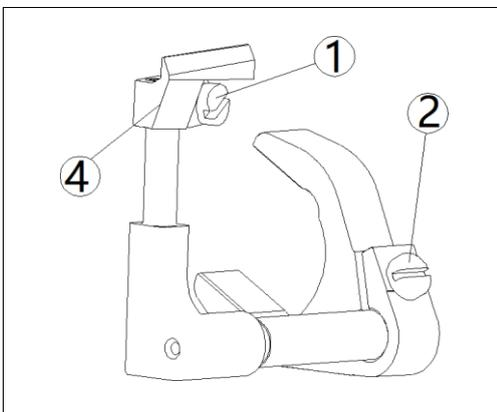

Figure 7-28
(4) After adjustment, tighten the fixing screws ①②. (Figure 7-28)